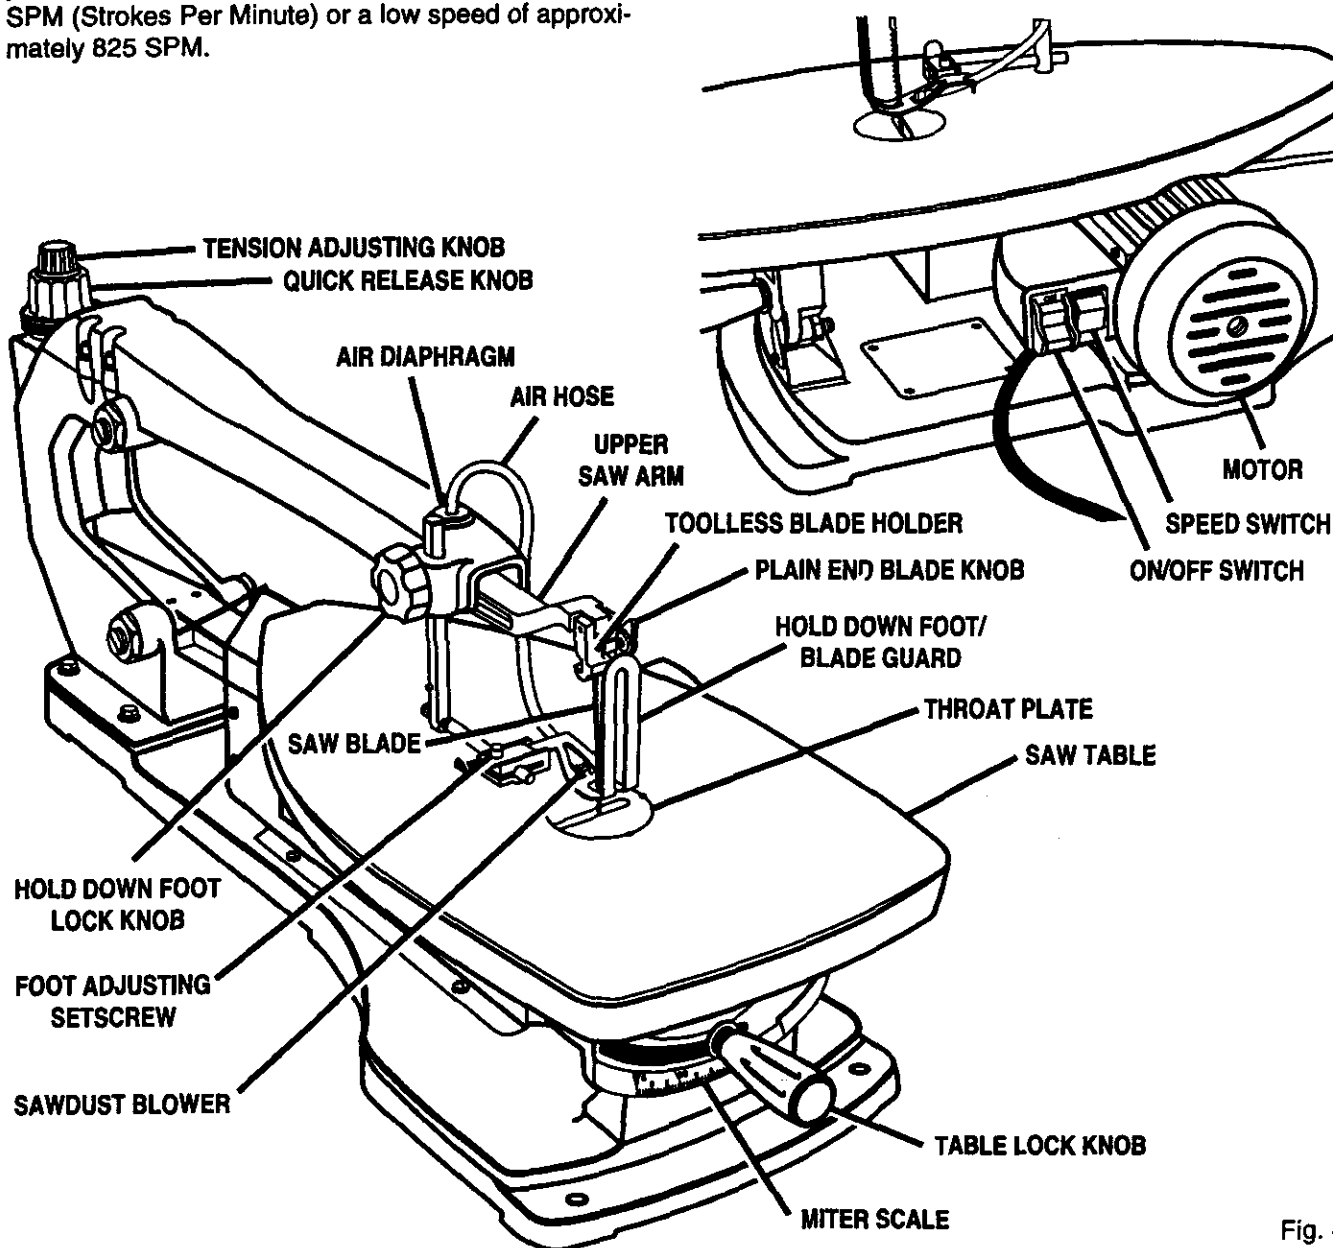

Fig. 4
Before attempting to use your saw, familiarize yourself with all operating features and safety requirements of your Sears Craftsman scroll saw. See Figure 4.
- On the top back of the saw, rotate the quick release knob to the left or counterclockwise to loosen blade tension. See Figure 4.
- Loosen the foot adjusting setscrew. See Figure 4.
- On the top back of the saw, rotate the quick release knob to the left or counterclockwise to loosen the blade tension. See Figure 4.